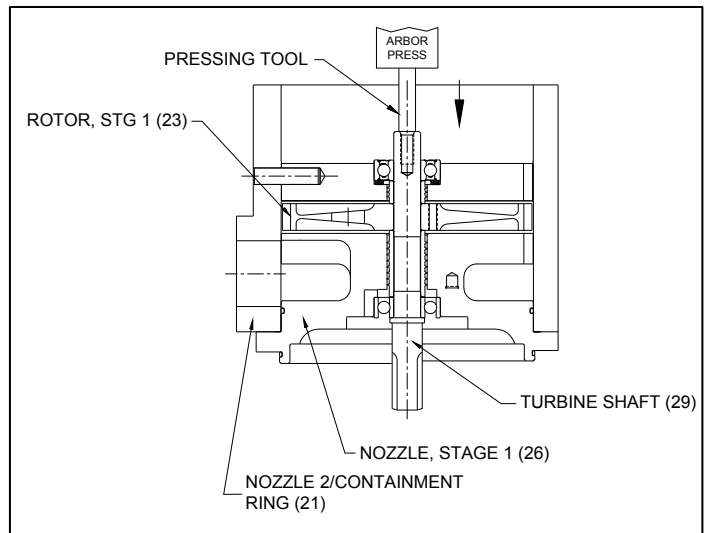

Figure 8. Turbine Shaft Removal
With the exhaust end facing up, press turbine shaft (29) through turbine housing (26) as shown in figure 8. Remove labyrinth (24) from turbine shaft.